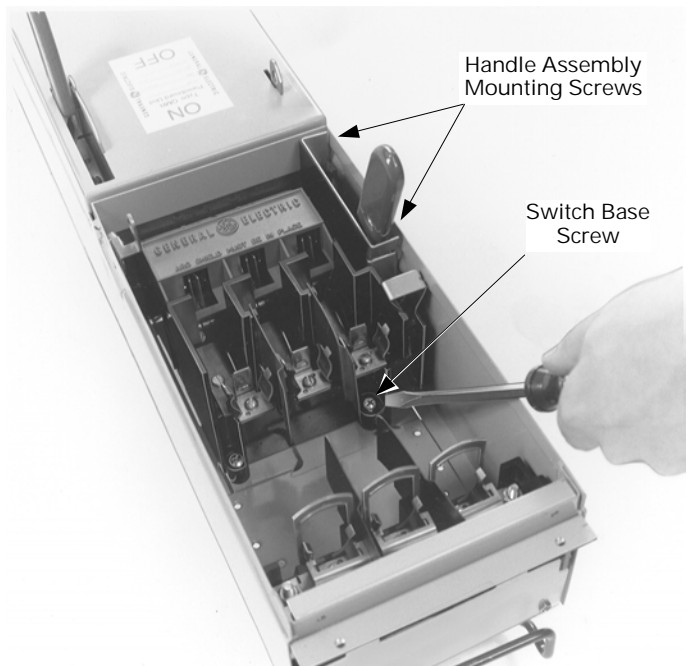

Figure 7. Installing the handle mounting screws.
7. **Install the screws.** Tighten the switch base screw to 27–32 in-lb, as shown in Figure 7. Install the #10-32 x 1/4" handle assembly mounting screws into the mechanism shroud mounting holes and tighten to 27–32 in-lb.